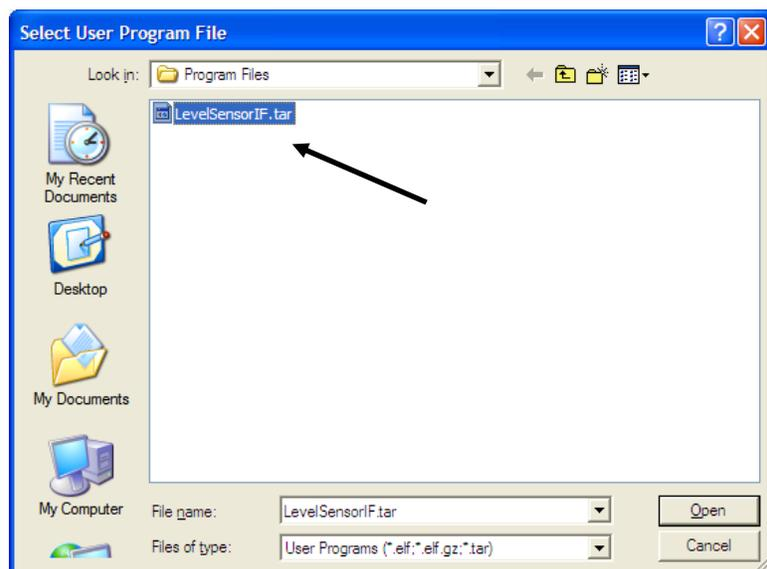

Figure 7. Select User Program File
5. Click **Browse** in the Download User Program File frame. The Select User Program File screen displays (see Figure 7).
6. Select the path and user program file to download from the CD-ROM. (Program files are typically located in the Program Files folder on the CD-ROM.) As Figure 7 shows, the screen lists all valid user program files with the .TAR extension: